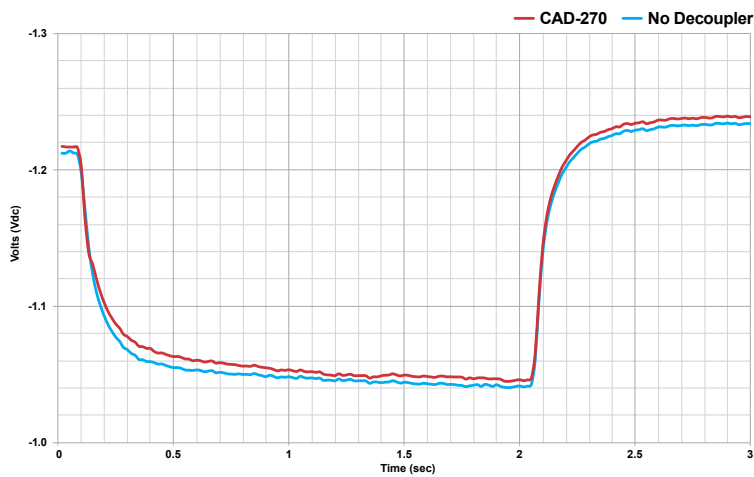

Figure 1
- a. A pair of waveforms as shown in Figure 1 below would indicate that a standard decoupler (SSD or PCR) is likely to produce future instant off potential measurements with good accuracy and a relatively short on/off cycle. This is important when anticipating a Close Interval Survey (CIS) and the time needed to conduct that testing.